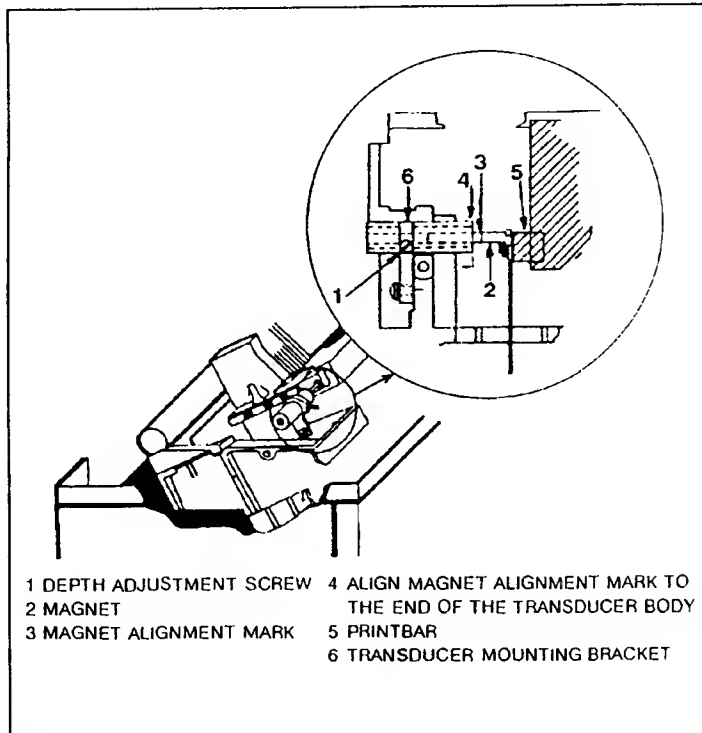

Figure 5-5. Velocity Transducer Adjustment
- a. Loosen the plastic adjustment screw (see Figure 5-5). (Note, the velocity transducer magnet should be secured to the printbar.)
- b. Position the velocity transducer body by moving it in and out of the frame until the front edge of the body is aligned with the scribe line on the magnetic pin (see Figure 5-5).